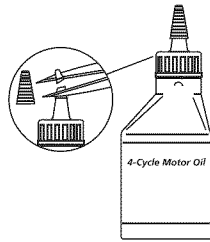

Fig. 5
Your unit is supplied with one 3.04 fluid oz. (90 ml) bottle of SAE 30 SF, SG, SH oil (Fig. 5).
1. Unscrew the oil bottle top and remove the paper seal covering the opening. Replace the top and cut the tip off the funnel spout (Fig. 5).